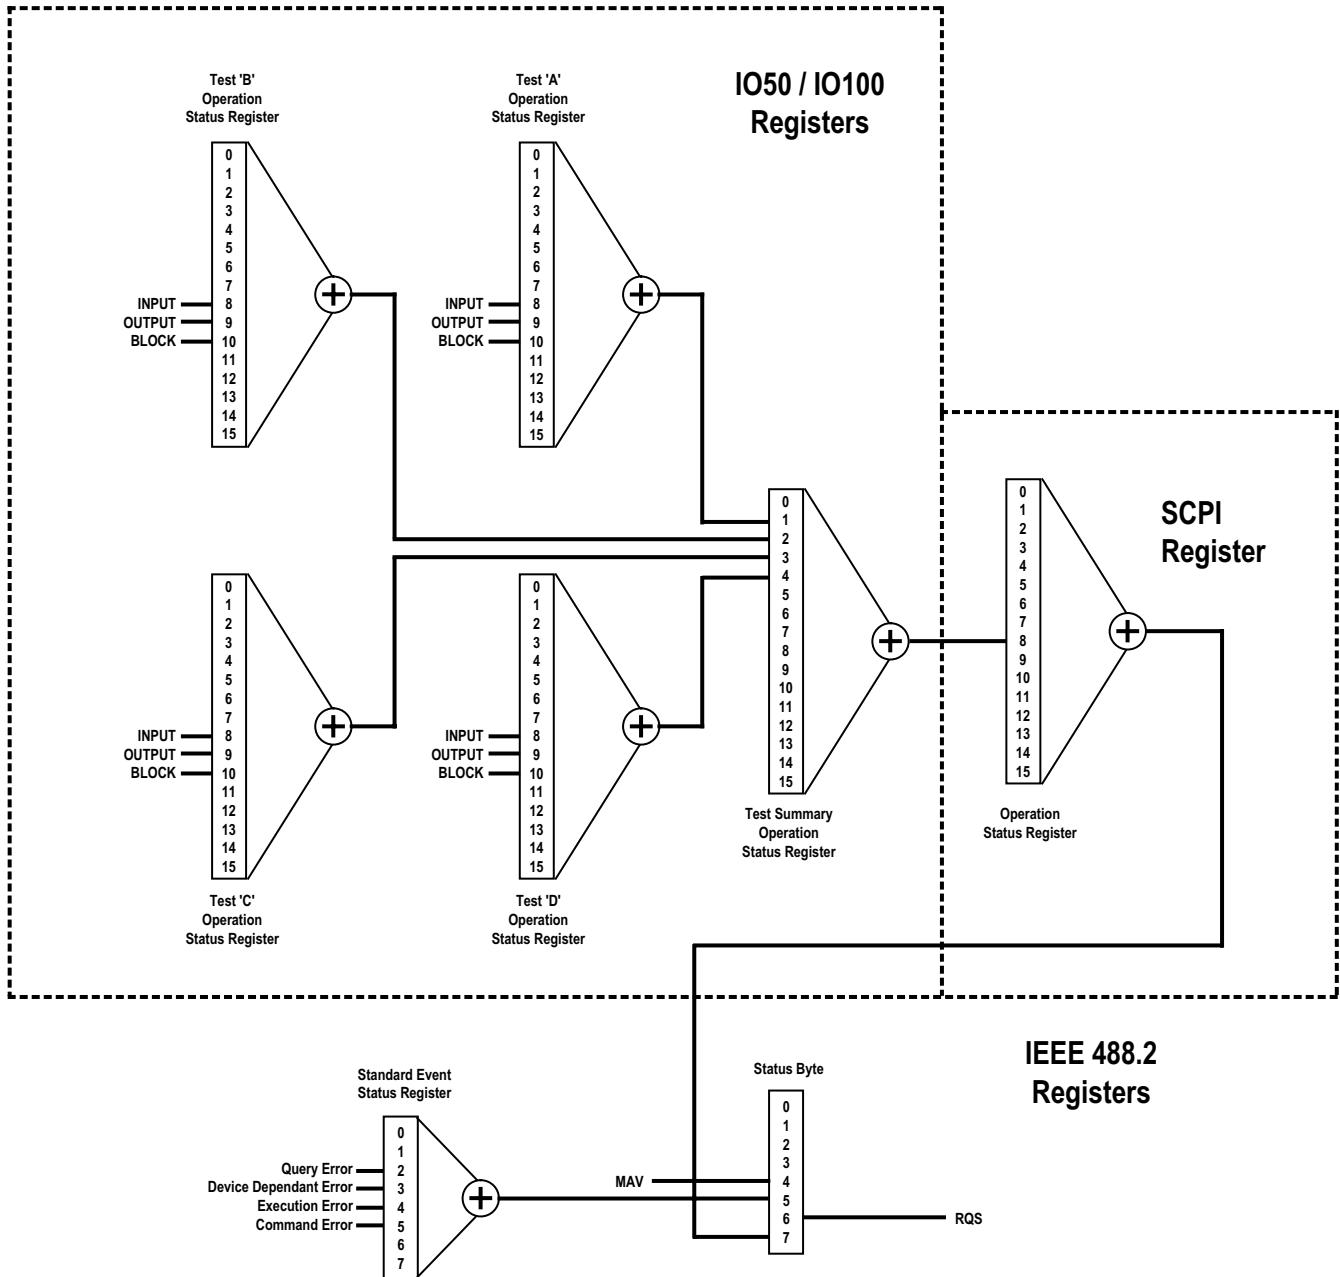
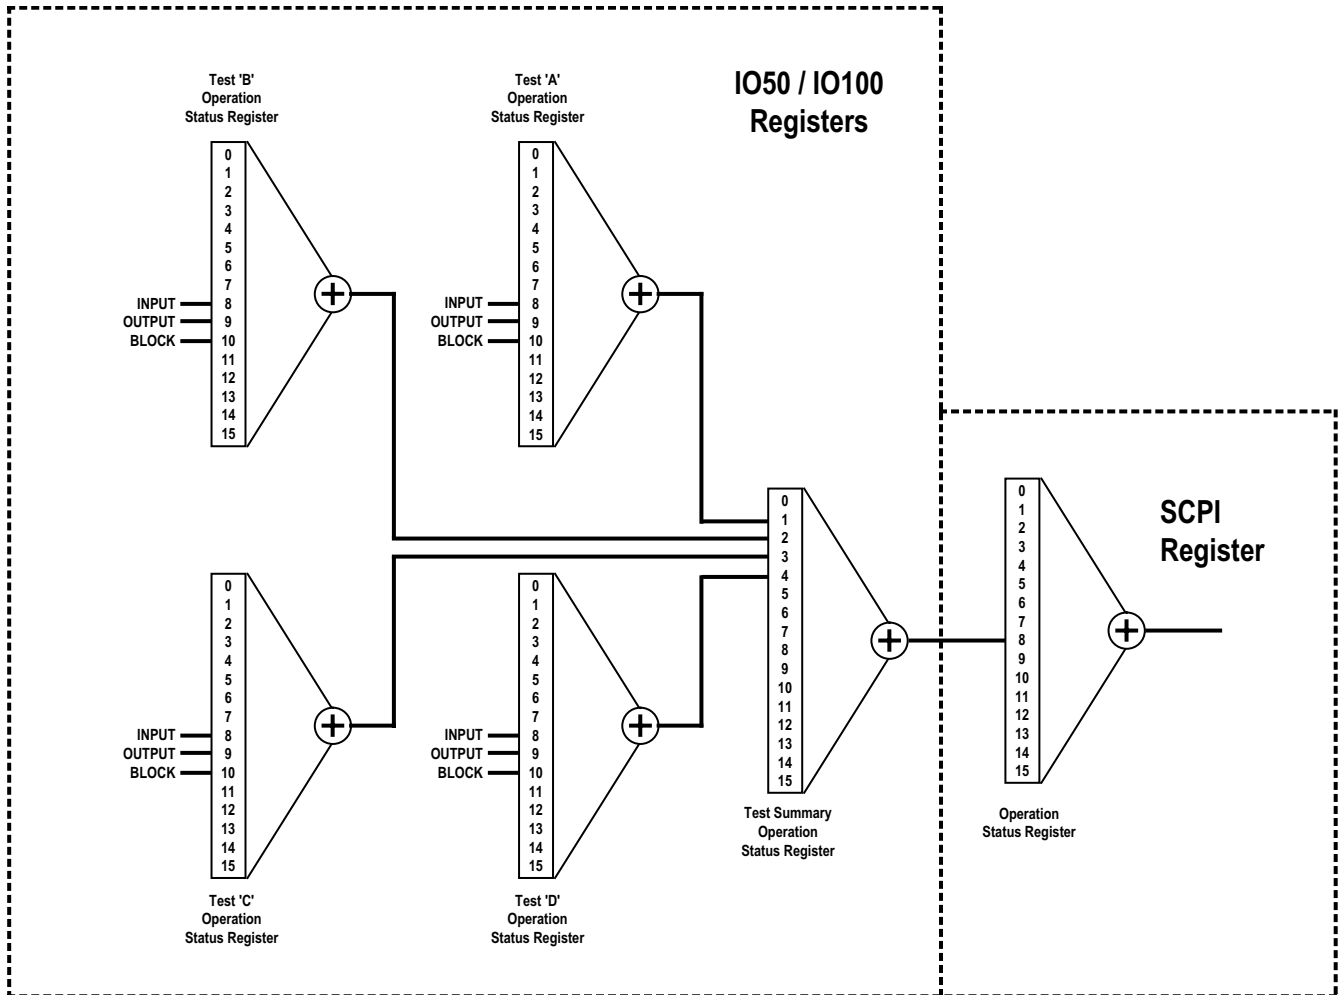

Figure 3-1.
Figure 3-2.
- Remarks:** The IO50/IO100 utilizes the 488.2 and SCPI Status Reporting structure for reading instrument status . Refer to Figure 3-1 for supported status events (registers/bits) and Figure 3-2 for condition status . The structure for Event and Condition registers is identical, the difference being that Event Status is latched (static) while Condition Status is constantly changing as test conditions change (dynamic) . Each event register indicated in the Figure 3-1 is actually two registers, the status register itself and the corresponding status enable register . For clarity, only the status registers are shown . Figure 3-3 in the IEEE 488.2 Register section contains more detail on the relationship between status registers and status enable registers . The status register may be queried at any time to determine operational status of the IO50/IO100, even if event interrupts are not enabled . By setting the appropriate enable bits in the status enable registers, a Service Request (SRQ) interrupt may be generated when the enabled event occurs . This provides immediate feedback to the user.